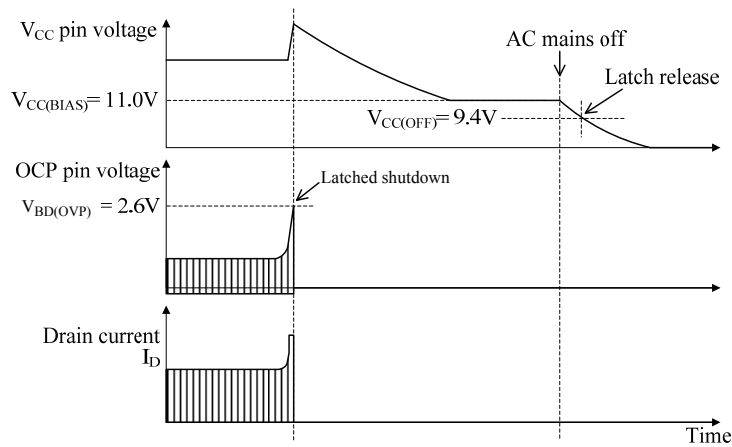

Figure 20. Waveforms when OCP pin OVP function is being activated
• OCP Pin Overvoltage Protection. Figure 20 shows the waveform of the OCP function on the OCP pin. When the OCP pin voltage with reference to the S/GND pin reaches  $V_{BD(OVP)} = 2.6\text{ V}$  or more, OVP is activated and the IC stops switching operation in latch mode. This input voltage must be less than the absolute maximum rating, 5 V.